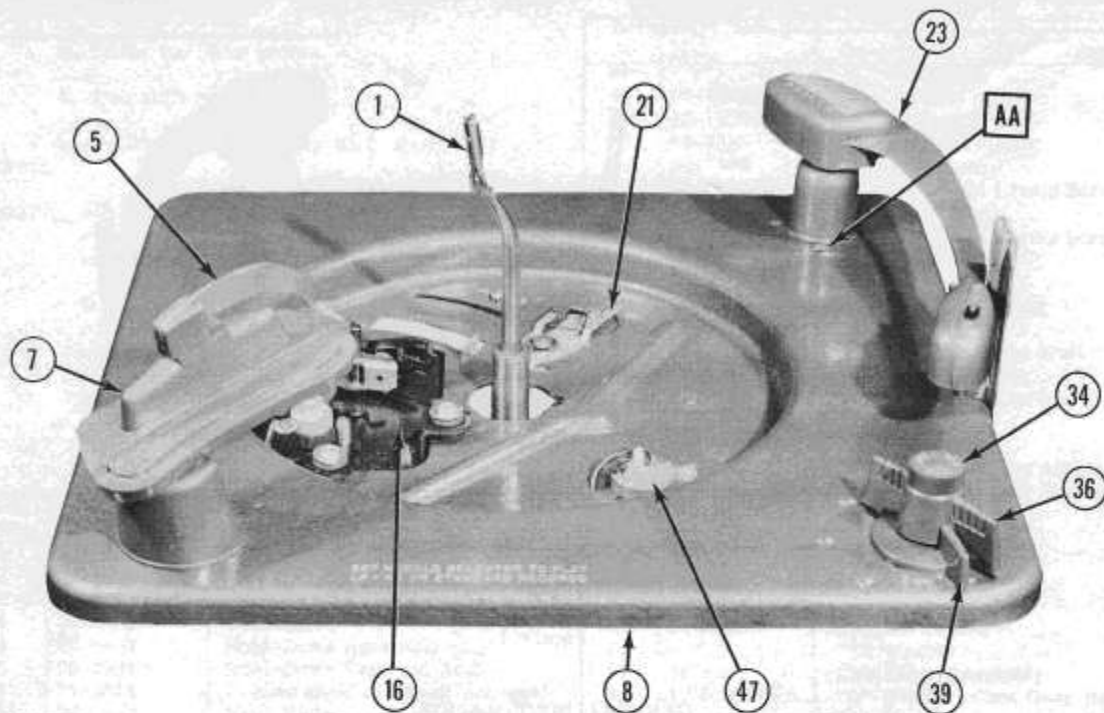
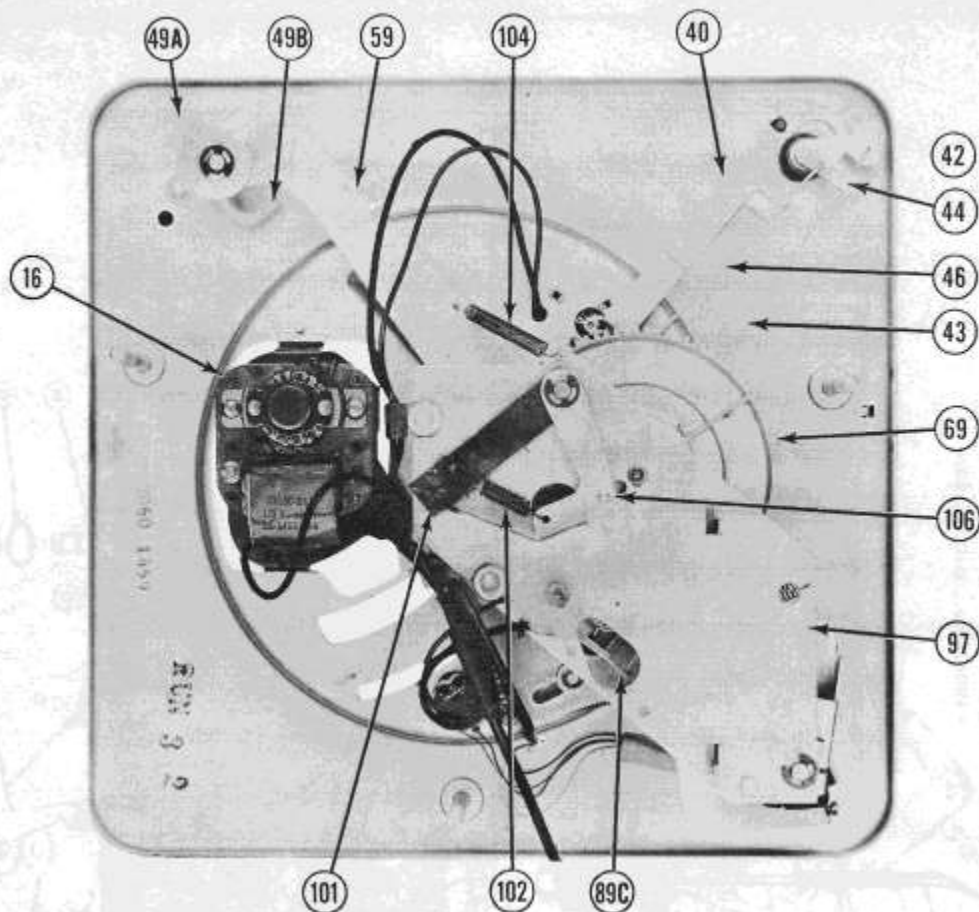

Figure 2
Figure 3
For 10" positioning, place a 10" record on the turntable and set the record shelf (7) to the 10" position. Trip the mechanism; then rotate the turntable clockwise, by hand, until the tone arm starts its downward move. If the needle is not $1/8"$ in from the edge of the record, bend the ear of the set-down cam (49A) which is in contact with the eccentric adjusting stud. (See Figure 3.)
The correct position for the trip mechanism is as follows: With the changer out of cycle and with the ear of the reset arm (89A) contacting the peak of the reset cam (92), the dog latch on the cam should engage approximately $1/2$ the width of the supporting finger (89B) of the trip plate. If this condition is not true, it may be corrected by bending the ear (89C) of the trip plate. This adjustable ear is made accessible through a large hole in the bridge (97). (See "Exploded view and Figure 3.") If this does not remedy the trouble, the friction clutch can be adjusted, although this should not normally be necessary. To make this adjustment, place the tone arm on the arm rest and adjust the screw (77), which is accessible through the hole (AA) in the baseplate. (See Figure 2.) Turn this screw counterclockwise until the clutch is just snug (do not tighten); then loosen one turn. Check the adjustment by rejecting several records and observing the tripping mechanism. Readjust, if necessary.